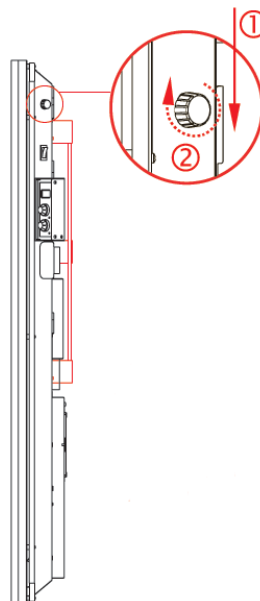

Fig.4
5. Pull the child lock knob downwards (**1**) and turn clockwise (**2**) until tight to lock in position (see **Fig.4**)